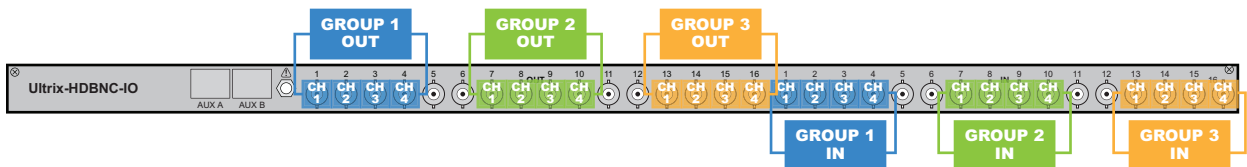

Figure 28 Example of Gearbox Mapping on a Single Ultrix-HDBNC-IO Blade
**Figure 28** illustrates the connections allocated for Gearbox groups on an ULTRIX-HDBNC-IO blade.